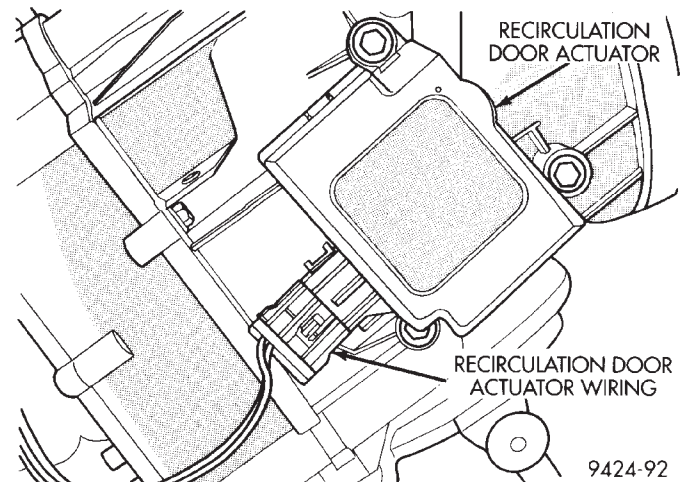
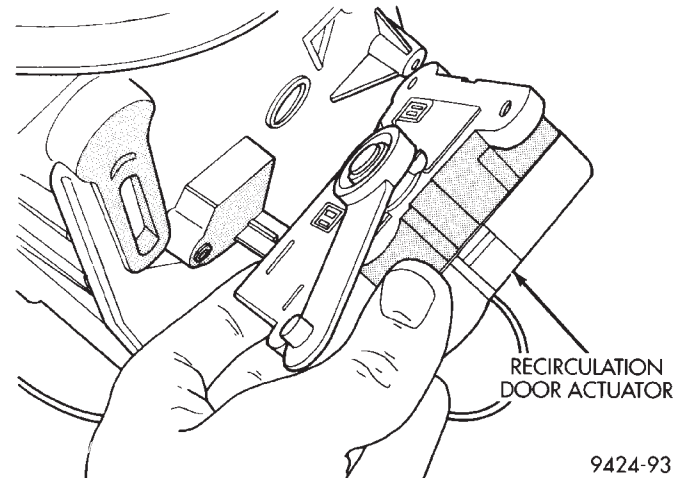

**Fig. 56 Recirculation Door Actuator Wiring**
**Fig. 57 Recirculation Door Actuator**
- (1) Place heater-A/C unit assembly on workbench.
- (2) Pull back on retaining tabs and remove heater core from housing.
- (3) Remove recirculation door actuator wiring (Fig. 56). Remove actuator from recirculation housing (Fig. 57).